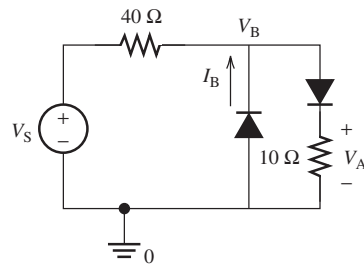

FIGURE P8.12 Circuit for Problem 8.12.
- 8.12 (A) Write the expression of I_B in the terms of voltage across the 10-Ω resistor, V_A , that is shown in Figure P8.12. Assume that both diodes are on and that V_S is 10 V.